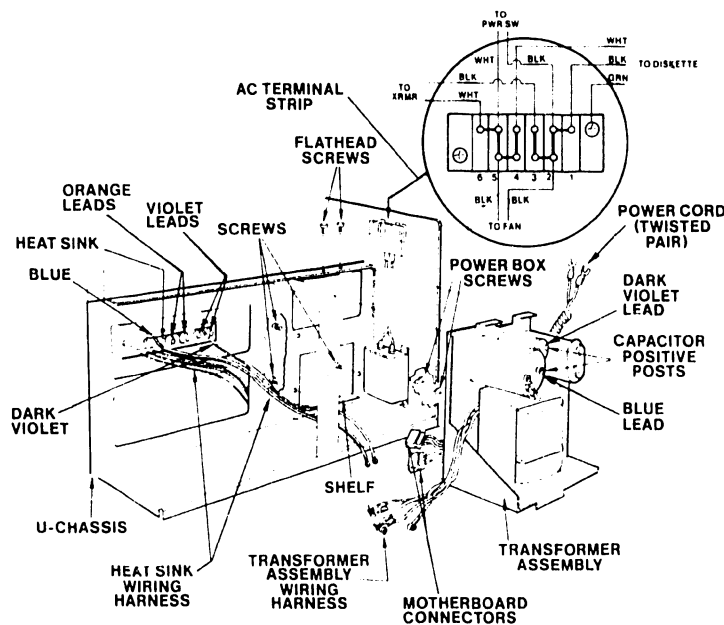

Figure 5-14. Replacing the Transformer Assembly
- D. Connect the Heat Sink wiring harness to the positive posts of the Transformer Assembly capacitors (one dark violet and two connected blue leads; see Figure 5-14).
- E. Connect the Transformer Assembly wiring harness to the Heat Sink Assembly (four orange and two violet leads; see Figure 5-14).
(See Figure 5-14.)